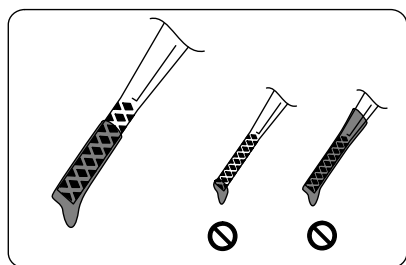

Figure 44
4. **Slowly** pour oil into the oil fill tube, periodically checking the level with the dipstick, until the dipstick indicates that the engine is full as illustrated in Figure 44. **Do not overfill.** (Max. fill: 0.58 quart (0.55 l), type: SAE 30W detergent oil with an API service classification of SH, SJ, SL, or higher.)